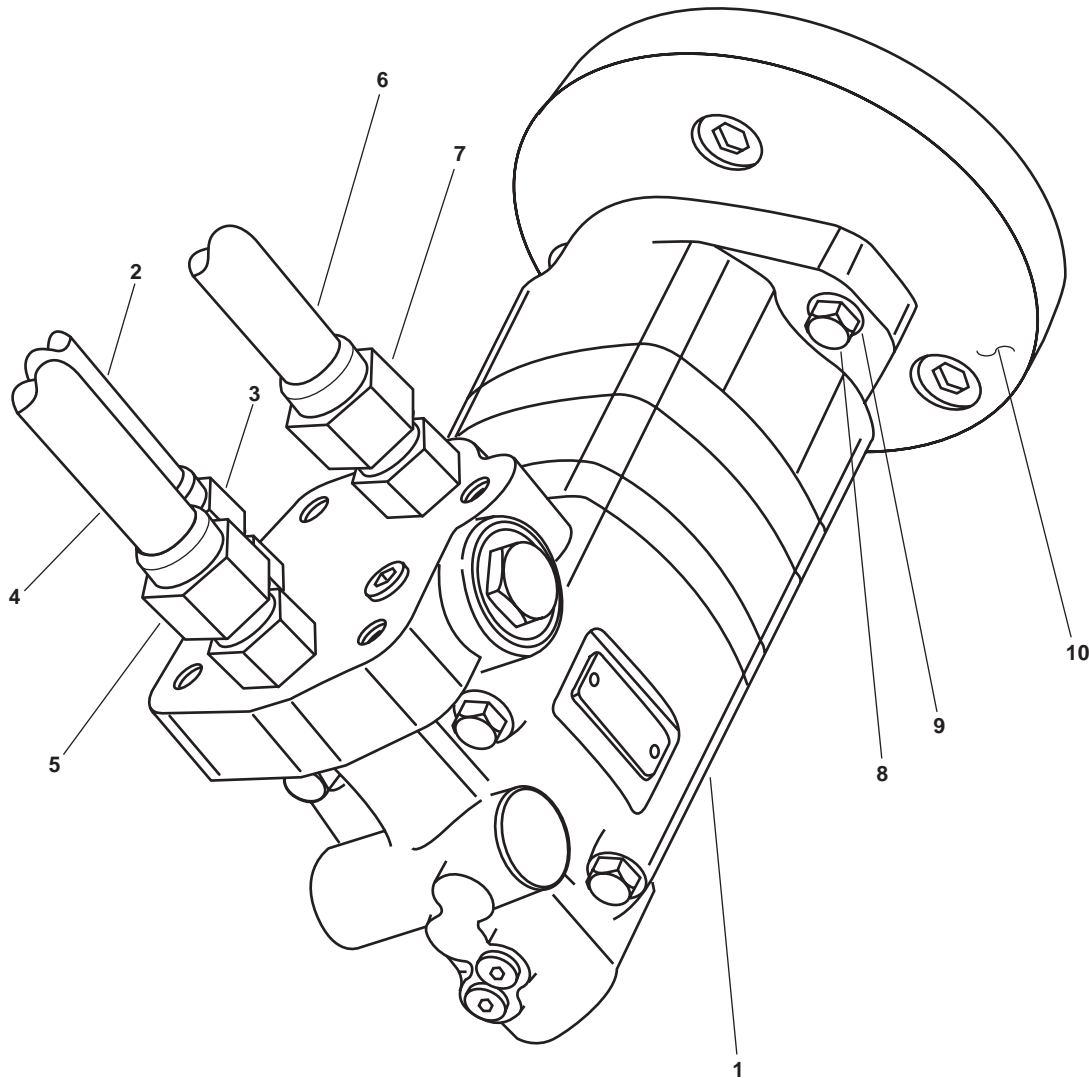

Figure 1. Anchor Windlass Hydraulic Motor
1. Place a suitable drain pan under the anchor windlass hydraulic motor (figure 1, item 1) to drain the hydraulic fluid lines into during the removal process.
2. Release the hydraulic pressure in the speed pilot tubing (figure 1, item 2) by slowly loosening the speed pilot tubing fitting (figure 1, item 3). Drain the hydraulic fluid from the speed pilot tubing into the suitable drain pan.
3. Remove the speed pilot tubing (figure 1, item 2) from the anchor windlass hydraulic motor (figure 1, item 1). Place an identification tag or label on the speed pilot tubing.
4. Release the hydraulic pressure in the hydraulic fluid supply tubing (figure 1, item 4) by slowly loosening the hydraulic fluid supply tubing fitting (figure 1, item 5). Drain the hydraulic fluid from the hydraulic fluid supply tubing into the suitable drain pan.
5. Remove the hydraulic fluid supply tubing (figure 1, item 4) from the hydraulic motor (figure 1, item 1). Place an identification tag or label on the hydraulic fluid supply tubing.
6. Release the hydraulic pressure in the hydraulic fluid return tubing (figure 1, item 6) by slowly loosening the hydraulic fluid return tubing fitting (figure 1, item 7). Drain the hydraulic fluid return tubing into the suitable drain pan.
7. Remove the hydraulic fluid return tubing (figure 1, item 6) from the hydraulic motor (figure 1, item 1). Place an identification tag or label on the hydraulic fluid return tubing.
8. Remove the two bolts (figure 1, item 8) and the two lockwashers (figure 1, item 9) from the hydraulic motor (figure 1, item 1) and the hydraulic disc brake (figure 1, item 10). Discard the lockwashers.
9. Remove the hydraulic motor (figure 1, item 1) from the hydraulic disc brake (figure 1, item 10) by pulling the hydraulic motor down.
1. Install the hydraulic motor (figure 1, item 1) on the hydraulic disc brake (figure 1 item 10), ensuring proper spline shaft alignment.
2. Install the two bolts (figure 1, item 8) and two new lockwashers (figure 1, item 9) in the hydraulic motor (figure 1, item 1) and the hydraulic disc brake (figure 1, item 10).